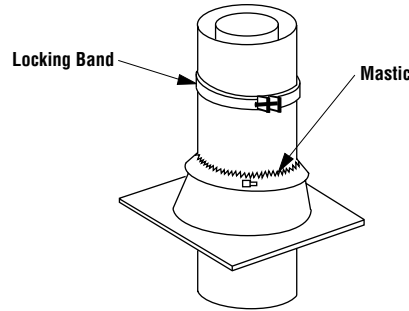

Figure 38
Step 8. The standard FireCraft FTF8 roof flashing assembly includes a storm collar. Slide storm collar over outer chimney, align with top surface of flashing, insert storm tab in slot, pull tight and bend tab back over slot. Seal storm collar to outer chimney with roof caulking or mastic around entire circumference of pipe. Also add extra roof caulking where storm collar meets flashing and to the tab/slot area to seal completely against water penetration (Figure 38).
Step 9. FireCraft locking band, Model FLB, may be required if the chimney extends too high above the roof flashing. As a general rule, if the chimney extends more than 6' (1.8 m) above the roof/flashing, the use of locking bands is advisable to strengthen the chimney joints. Align the locking band at the pipe joint. Locking bands wrap around pipe joints equally covering the joints of both pipe sections. Use nut provided and TIGHTEN snugly. Do not over tighten as this might damage chimney section (Figure 38).